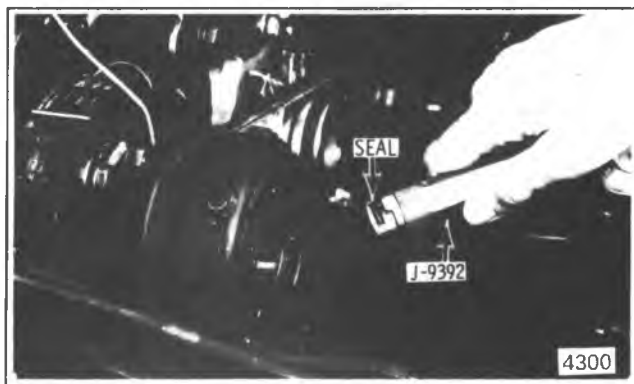

Figure 1D-94 Removing R-4 Seal (On Car)
8. Remove and discard the seal seat O-ring from the compressor, neck using O-Ring Remover 9553 (Figure 1D-95).